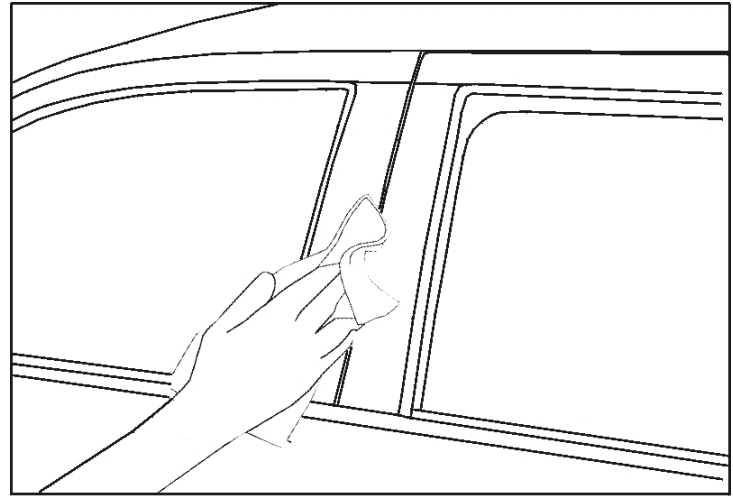

Fig. 1-1
- ⊘ (1) Always use a clean lint free cloth.
- (2) Shake solution well.
- ⊘ (3) Apply Cleaner to cloth or wipe. Do not spray cleaning solutions directly to any vehicle surfaces. (Fig. 1-1)
- ➔ (4) Clean surface thoroughly and wipe dry immediately with a new clean cloth. Do not allow cleaner to air dry. (Fig. 1-1)